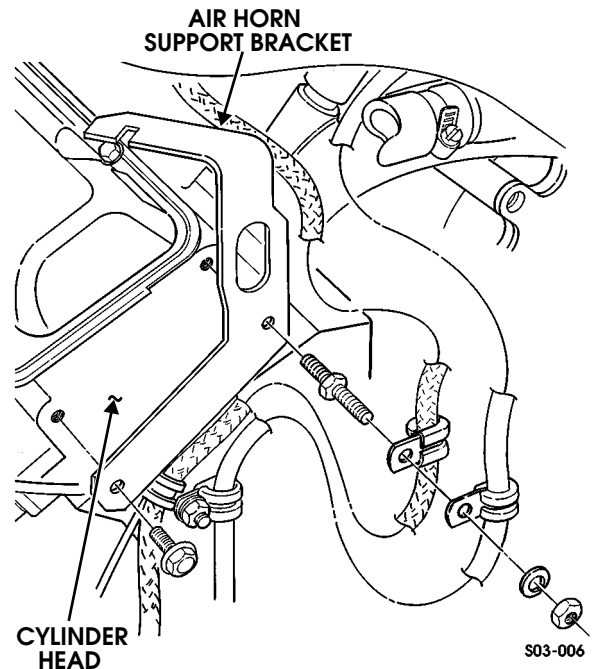

Figure 3-24: Air Horn Support Bracket Attachment
2. Remove nut, lockwasher, two clamps, and stud from air horn support bracket and cylinder head. Discard lockwasher (Figure 3-24).
1. Position air horn support bracket on cylinder head and install stud. Tighten stud to 40 lb-ft (54 N•m) (Figure 3-24).